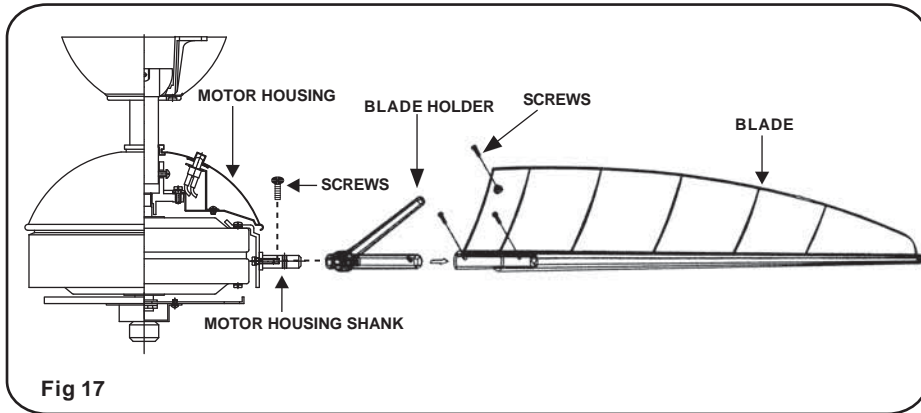

Fig 17
Step 1. (Fig. 17) Insert the Blade into the Blade Bracket, the side shank of the Blade Bracket should be positioned parallel to the edge under the curvature of the Blade. Align all three holes and secure with the three screws previously removed. **CAUTION:** Tighten Screws with a Screw Driver by Hand, Over-tightening with an Electric Screw Driver Could Damage the Blades.
Step 2. (Fig. 17) Slide the Blade Bracket / Blade assembly into the shank and align the hole, securely tighten with the screw previously removed. Repeat process from steps 1 and 2 with the other Blade Bracket/Blades.